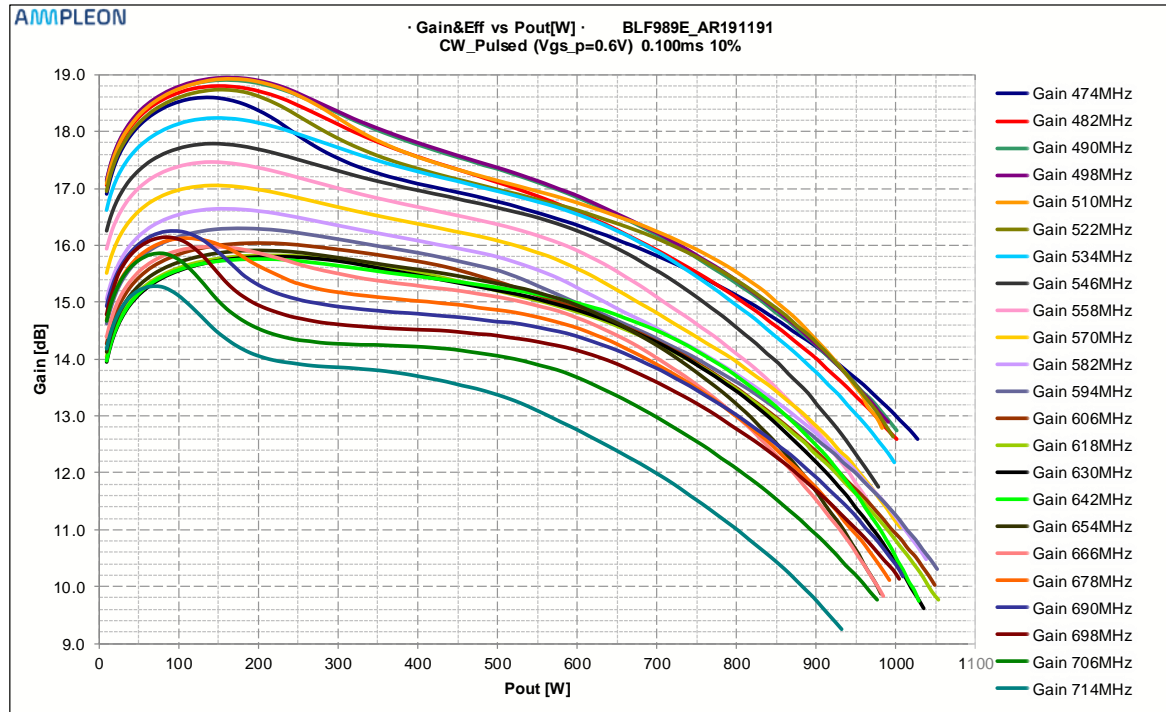

Figure 9 Pulsed CW, Gain [dB] as function of Pout [W] Vgs_p=0.6V
- Figure 9 Pulsed CW, Gain [dB] as function of Pout [W] Vgs_p=0.6V 10